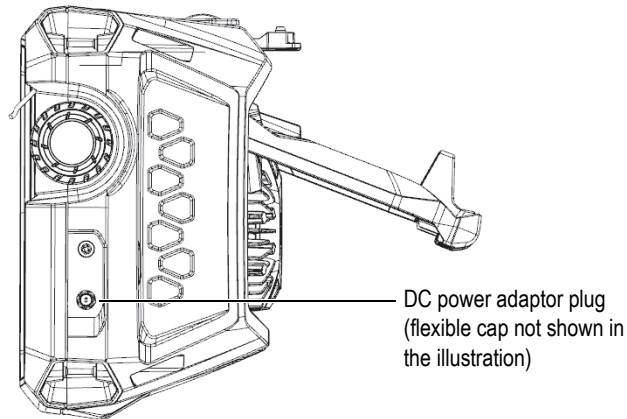

Figure 3-1 DC power adaptor plug
2. On the right-hand side of the OmniScan X3, lift the flexible rubber cap to expose the DC power adaptor plug (see Figure 3-1 on page 40).